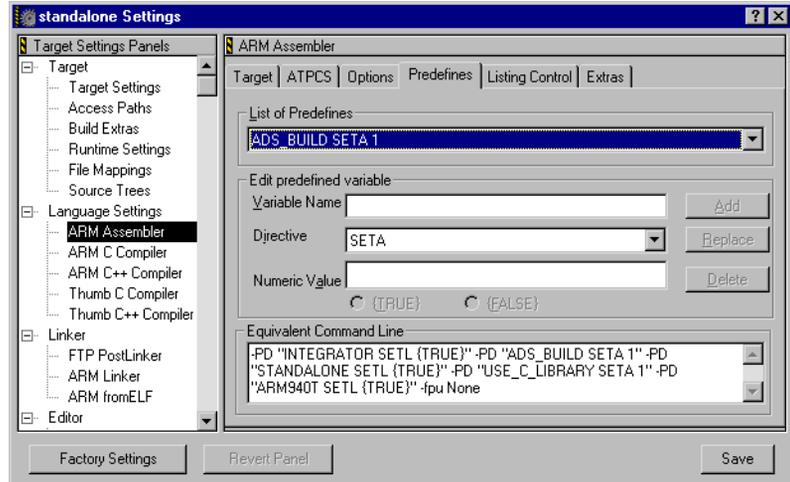

Figure 5-11 Assembler predefines
- b. Select the **Predefines** tab to set defines for the assembler (see Figure 5-11).